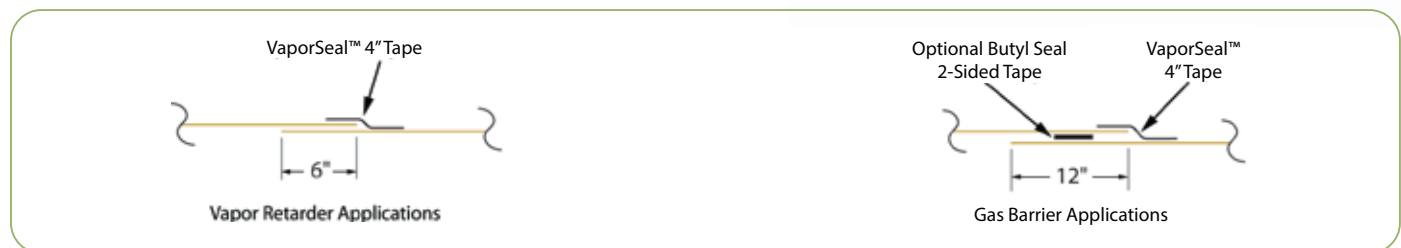

Figure 2: Radon Block™ Overlap Joint Sealing Methods
- 1.3** Lap Radon Block™ over the footings and seal with Butyl Seal tape at the footing-wall connection. Prime concrete surfaces, when necessary, and assure they are dry and clean prior to applying Butyl Seal Tape. Apply even and firm pressure with a rubber roller. Overlap joints a minimum of 6" and seal overlap with 4" VaporSeal™ Tape. When used as a gas barrier, overlap joints a minimum of 12" and seal in-between overlap with an optional 2-sided Butyl Seal Tape. Then seal with 4" VaporSeal™ Tape centered on the overlap seam (figure 2).